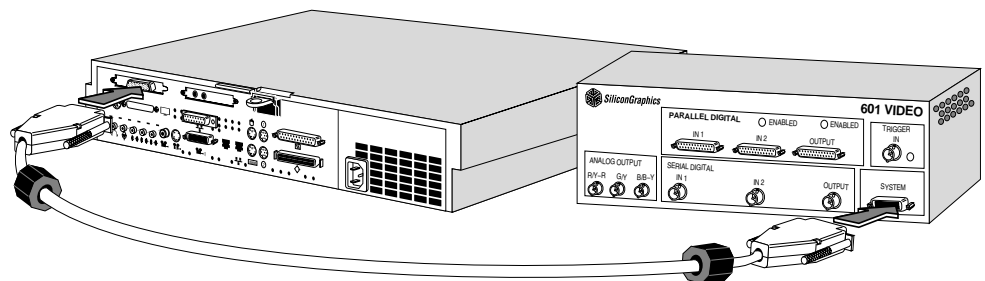

Figure 2-3 Connecting the Indy Video 601 Breakout Box to the Indy Workstation
- Figure 2-3** Connecting the Indy Video 601 Breakout Box to the Indy Workstation 9
2. Connect the 60-pin digital video cable to the port on the back of the Cosmo Compress board, as shown in Figure 2-3.